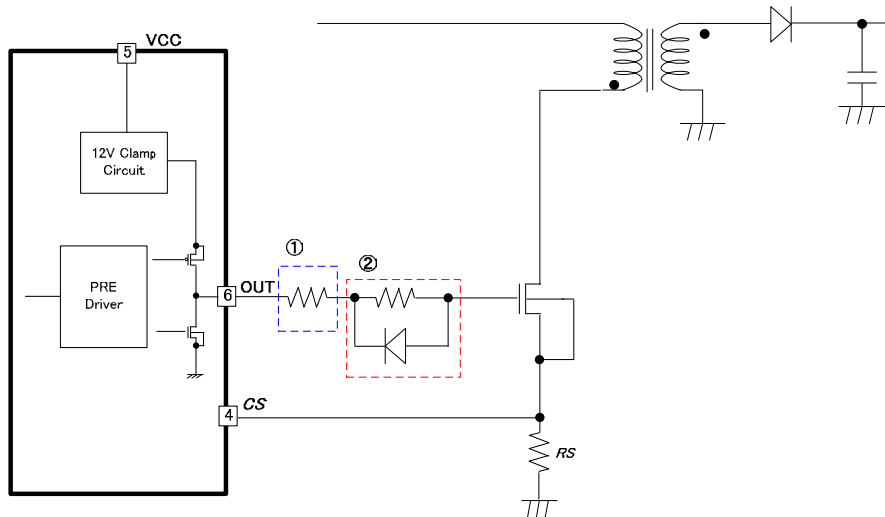

Figure 28. OUT Pin (Pin 5) Driver Circuit
Switching noise that occurs when OUT is turned on or off may cause EMI-related problems. In such cases, the MOSFET turn-on time and turn-off time must be delayed. However, when the turn off time is delayed, switching loss increases. Figure 28 shows a delay circuit for the OUT pin. In Figure 28, ① is valid during both turn-on and turn-off operations. ② shows a delay in the turn-on only, while turn-off is accelerated.
(10) Caution points for board layout pattern